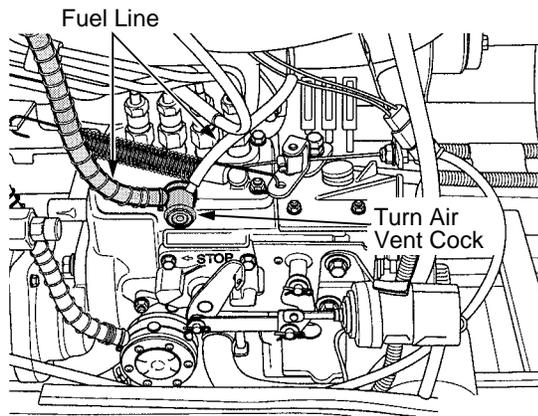

Figure 53
- Loosen the air vent cock on the injection pump two or three turns by hand, then start to turn the engine over. See Figure 53.
- Bleed the air from the fuel system using the air vent cock on the injection pump. Refer to Figure 53.
The condition of the fuel line hoses and clamps should be checked every 100 hours or six months (whichever occurs first), and they should be replaced every two years. Refer to Figure 53.